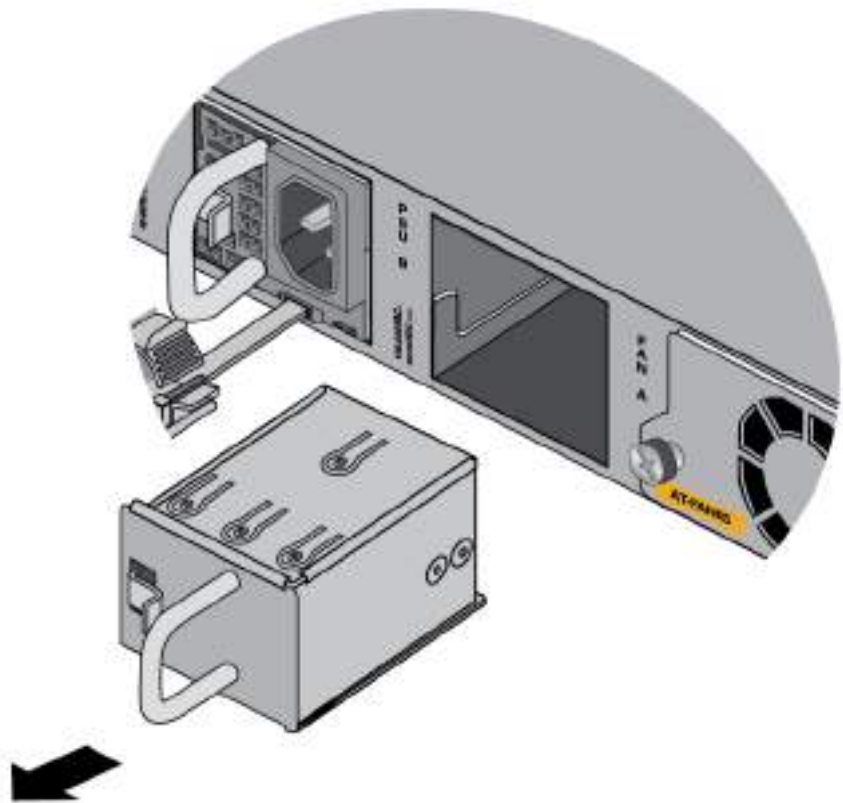

Figure 37. Removing the Blank Power Supply Panel from Slot PSU B
2. If there is already a power supply in PSU A, remove the blank panel from PSU B slot by pressing the release tab to the right and sliding the panel from the switch. Refer to Figure 37 on page 85.